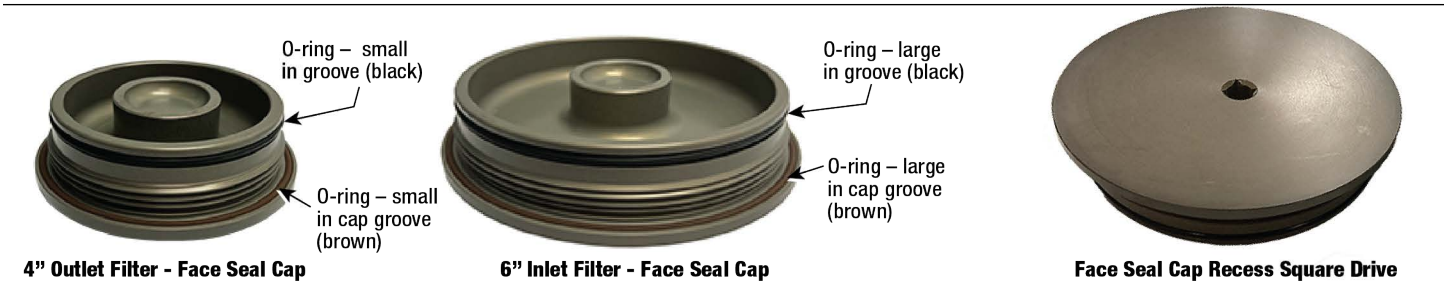
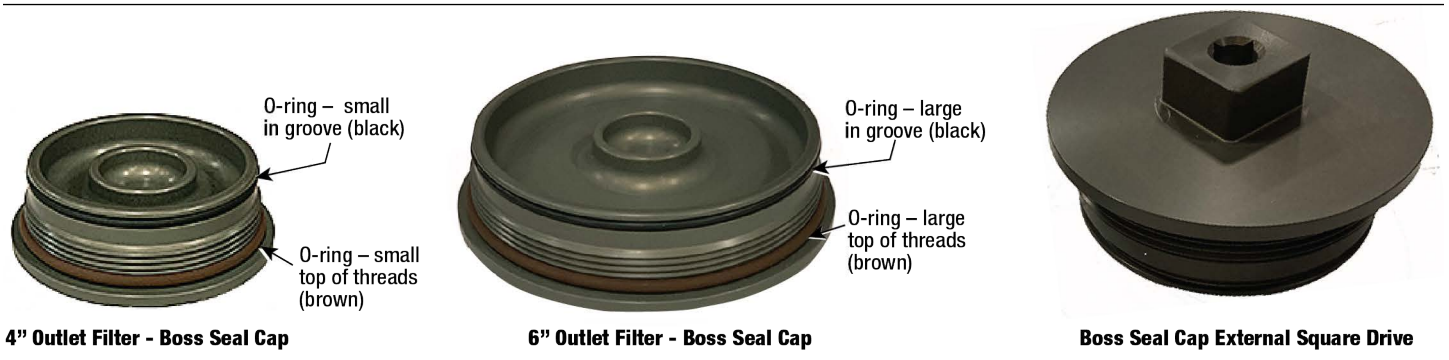

Figure 5. O-Ring Locations for Face Seal Cap w/Recessed Square Drive
Figure 6. O-Ring Locations for Boss Seal Cap w/External Square Drive
11. Install the new o-rings onto the cap removed during step 2, being sure to select the proper o-rings for the cap removed (Face Seal Cap Kit P/N 330020-868 and Boss Seal Cap Kit P/N 330020-904). Take care not to damage, twist or contaminate the seals. (See Figure 5 for face Seal caps or Figure 6 for boss seal caps as appropriate). Include parts # for face/boss seal kit.